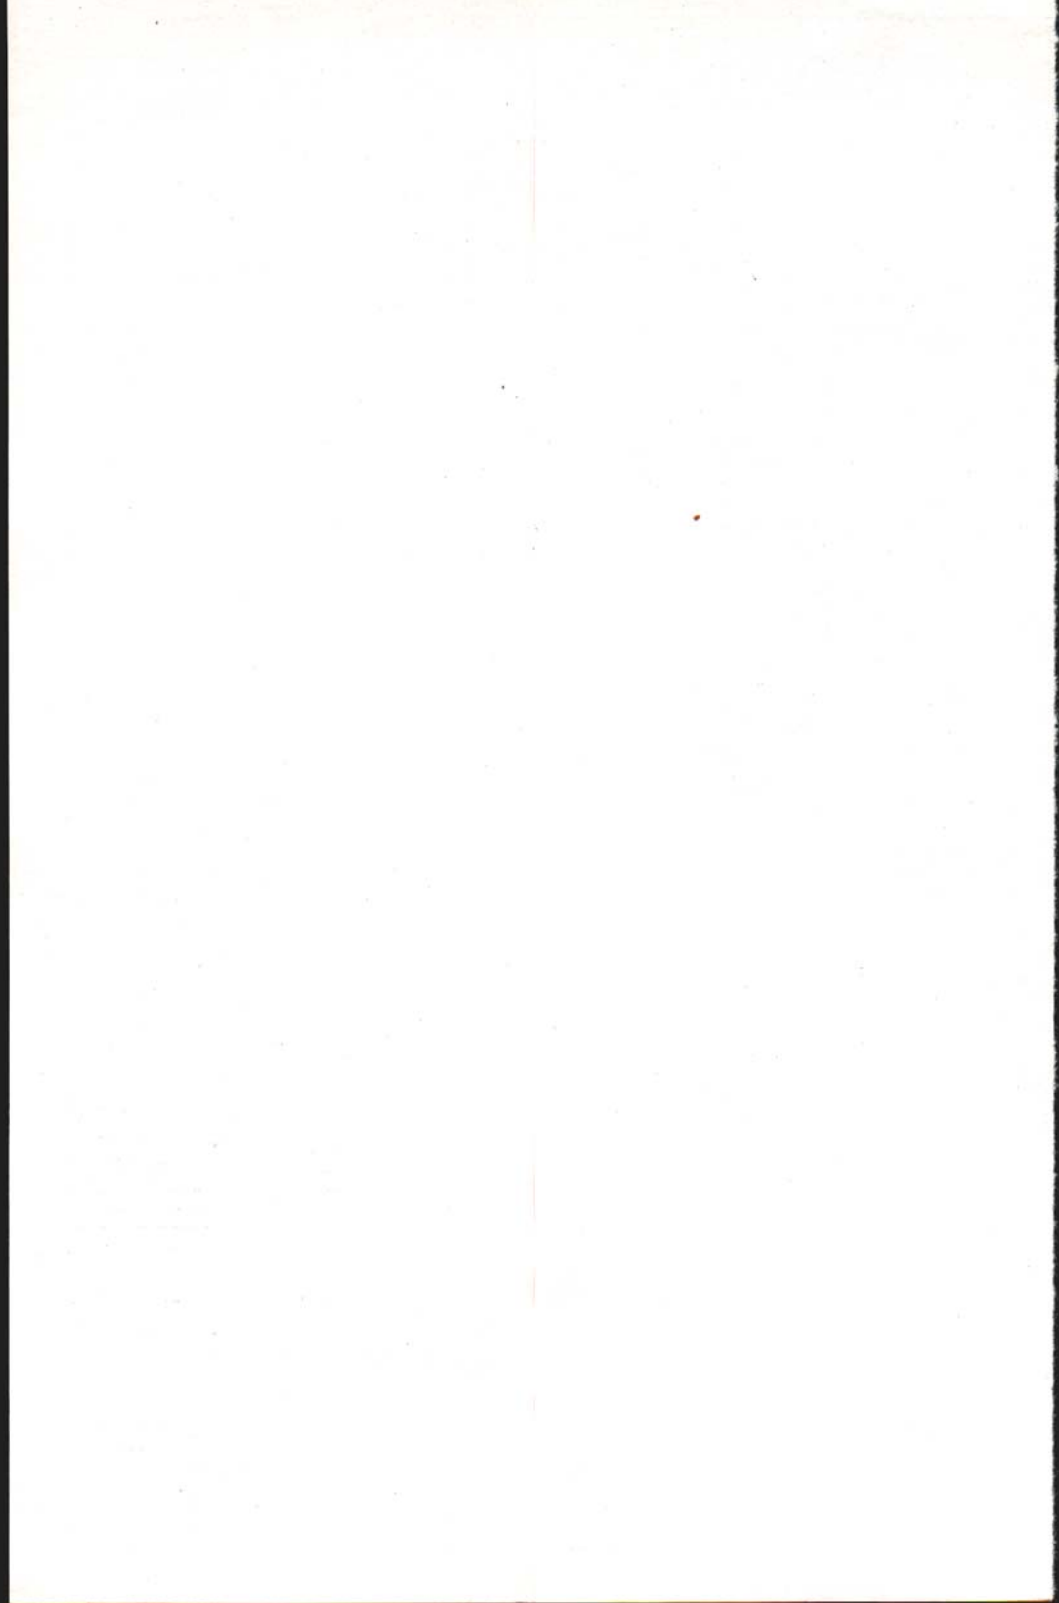

Fig. 2.—Shows method of applying insulation board with siding nailed in vertical position.
**Insulation**—The use of one-half inch insulating board for sheathing has made it possible to reduce materially the amount of framing. No studs are used in the back, side, and end walls. Except for the studs in the front wall, the insulation and vertical siding support the weight of the roof, see Fig. 2. The insulation also gives rigidity to the building, reduces the number of cracks in the wall, saves fuel, and maintains a more uniform, comfortable temperature in the house.